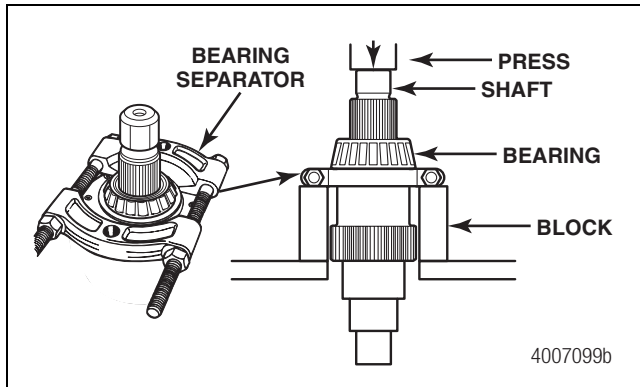

Figure 4.21
6. Install a bearing separator or other suitable tool below the forward roller bearing. Figure 4.21.
7. Install the output shaft assembly into a press and support it correctly. Figure 4.21.